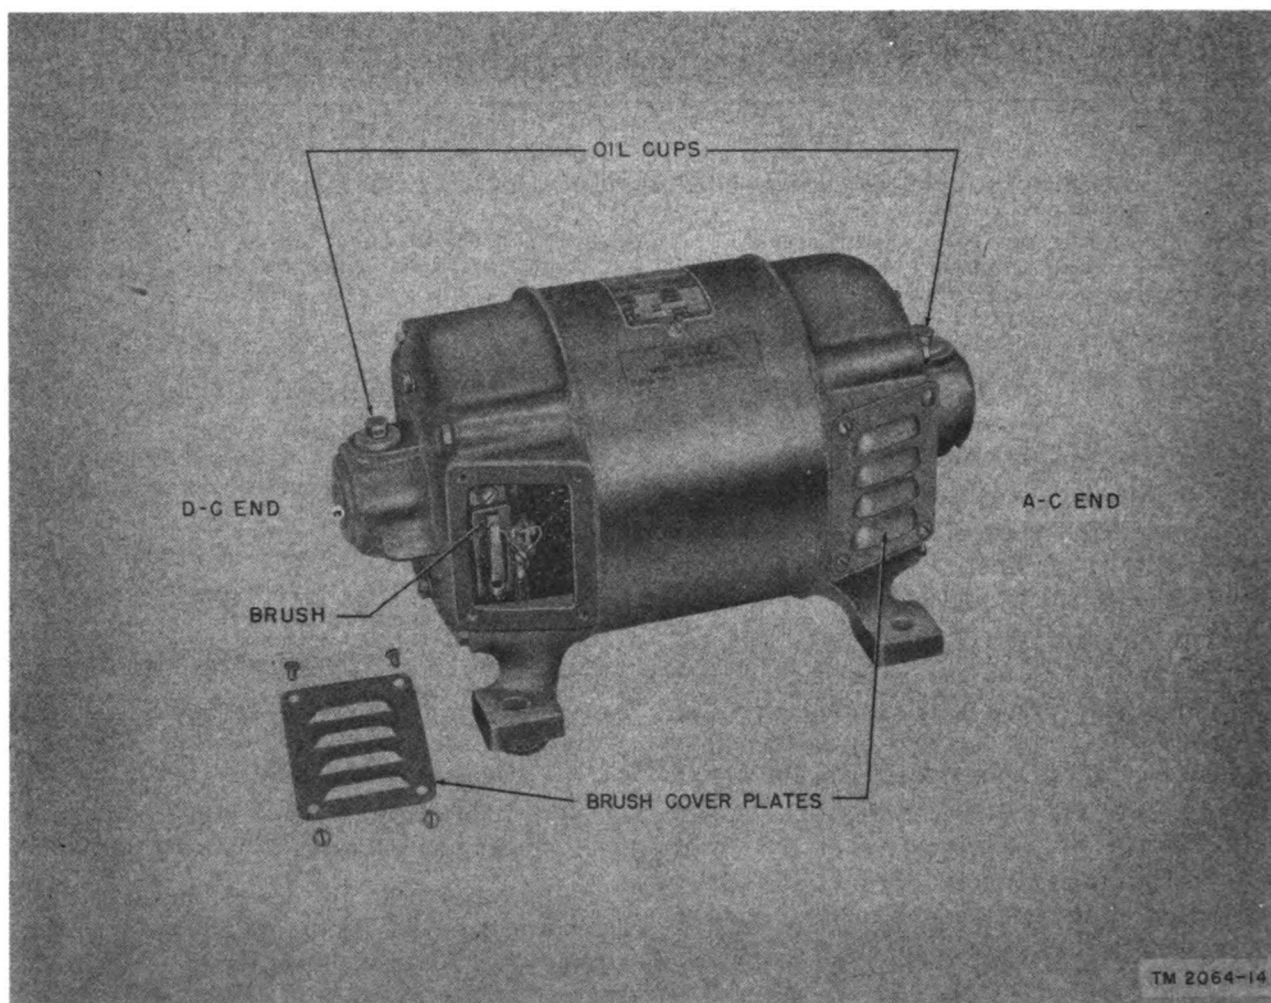

Figure 18. Lubrication point, emergency ringer with brush cover plate removed from d-c end.
a. **PREPARATION FOR LUBRICATION.** The oil cups at both ends of the emergency ringer provide the only points of lubrication. Refer to paragraph 24*c*(1) for methods of disassembly. On some emergency ringers there are horizontal type oil cups; on others the oil cups are the vertical type.
b. **INITIAL LUBRICATION** (fig. 18). For initial lubrication of the converter bearings, apply 3 tablespoonfuls ($\frac{3}{8}$ ounce) of oil (OE 10) to each oil cup.